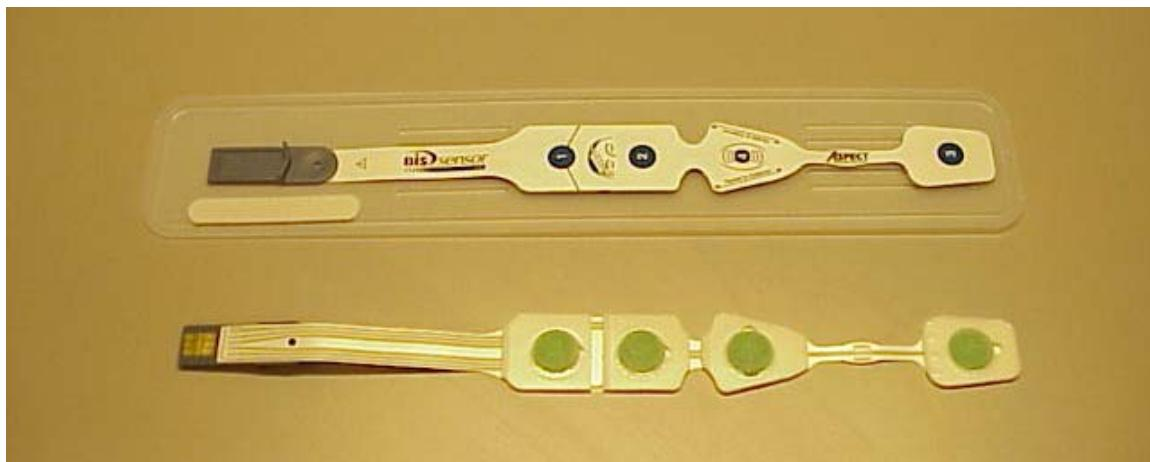

Figure 9-3 BIS Sensor
2. Place the end of a small paper clip at the midpoint of electrode #2 then lay it across electrode #4. (See Figures 9-3 and 9-4.)